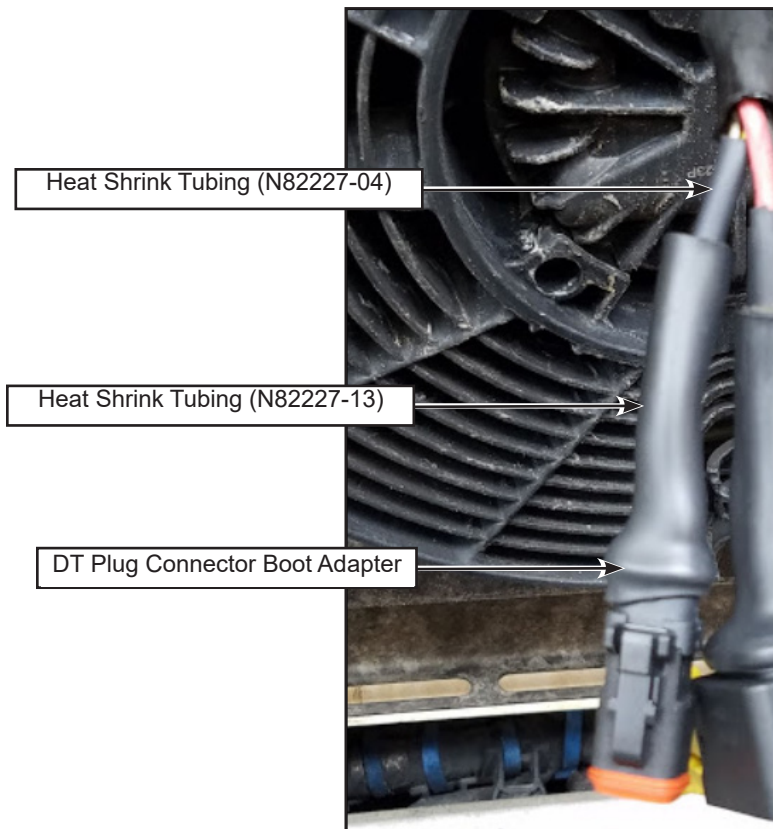

Figure 13 - Heat Shrink Tubing Installation on DT Plug Connector Wiring at Fan Side
- 1.21. Using a heat gun, apply the large heat shrink tubing PN N82227-13 starting from the boot adapter of DT plug connector finishing directly over the smaller heat shrink tube previously installed on the paired control wires (see figure 13). Make sure to fill any gap with the inner adhesive liner glue (do not apply heat shrink tubing over tape or loom).